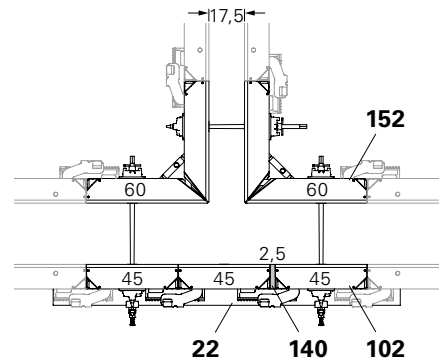

Fig. B5.02
- Wall thickness 17.5: Fig. B5.02